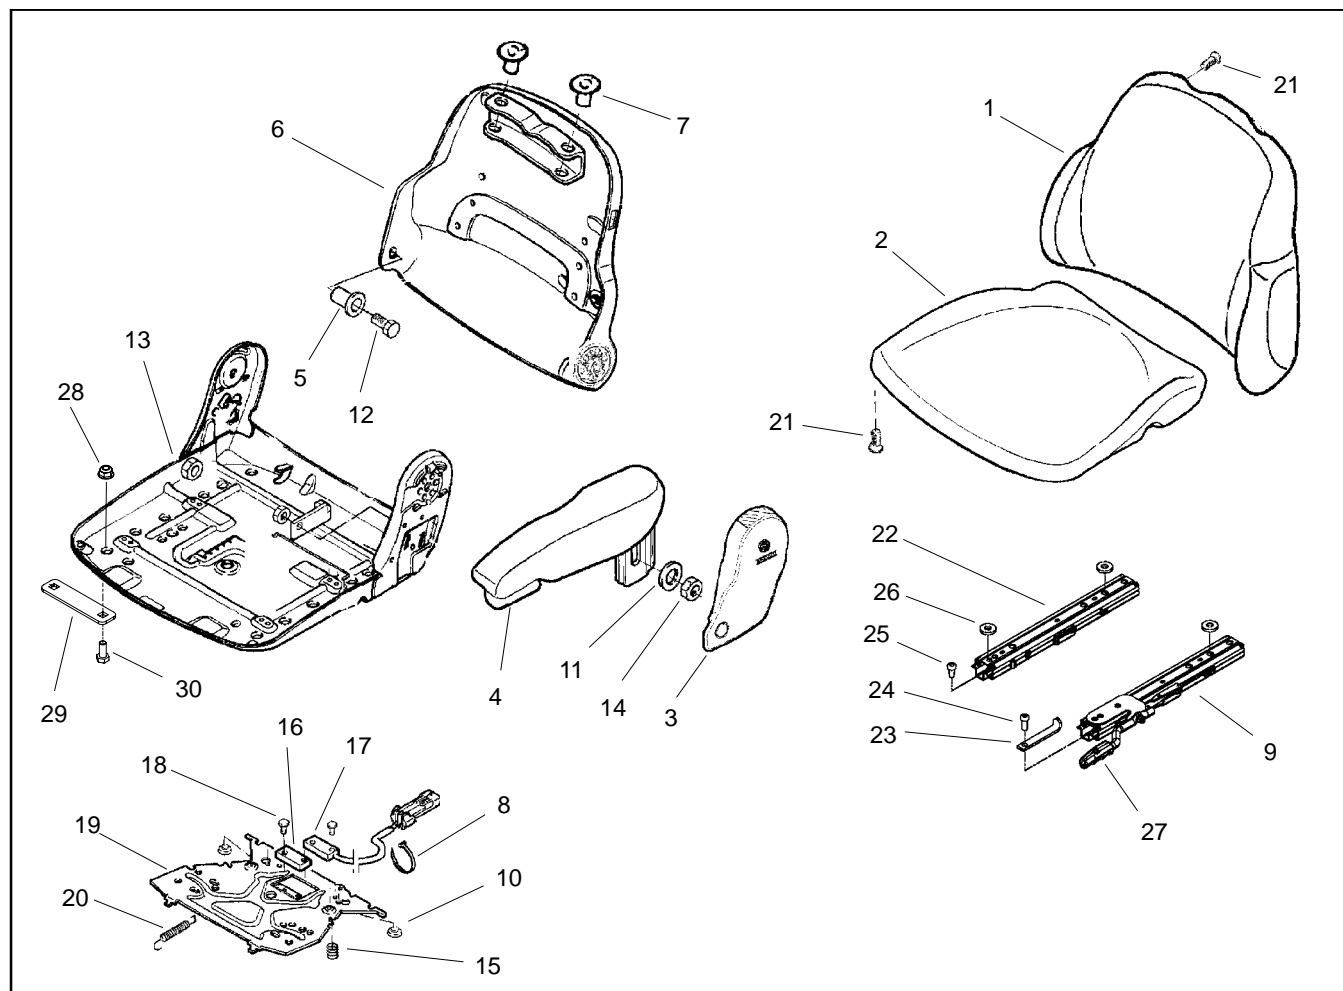

Figure 10
Disassembly (Fig. 10)
1. Disassemble operator seat as necessary using Figures 10 and 11 as guides.
Assembly (Fig. 10)
1. Assemble operator seat using Figures 10 and 11 as guides.